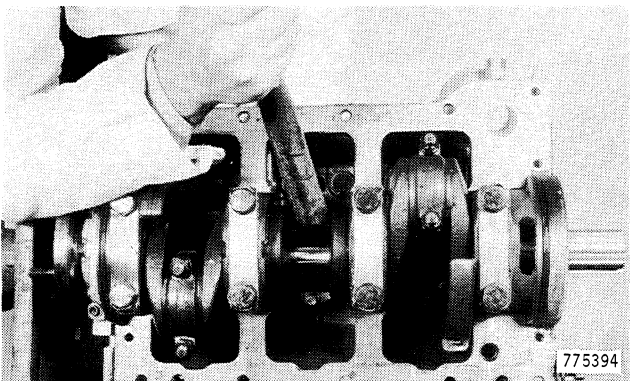

Figure 42
6. Use a wooden block or the handle of a hammer and hit the connecting rod cap bolts, Figure 42. Be careful not to damage the insert bearing. Remove the piston and connecting rod.